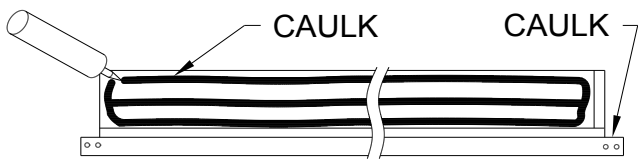
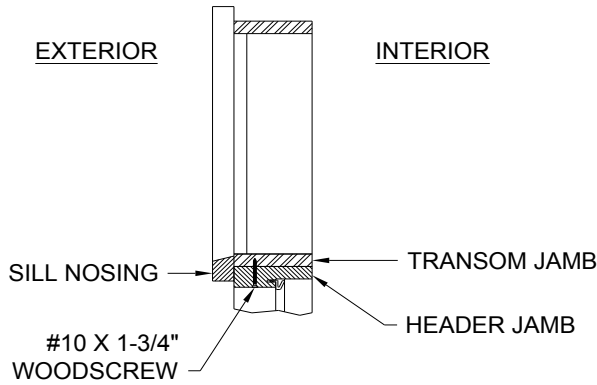

Fig. 2a
Fig. 2b
To install a pre-hung / transom combo: When installing the transom with a pre-hung, also refer to pre-hung installation instruction that came with the pre-hung. Apply a generous amount of silicone exterior sealant on the bottom side of the transom jamb and on the inside of the transom brick molding, as shown in Fig. 2a. Make sure that the transom's brick molding is flush against the outside edge of the header on the pre-hung system. Once the transom is centered, flush and plumb, fasten together with (5) #10 X 1-3/4" wood screws, as shown in Fig. 2b.